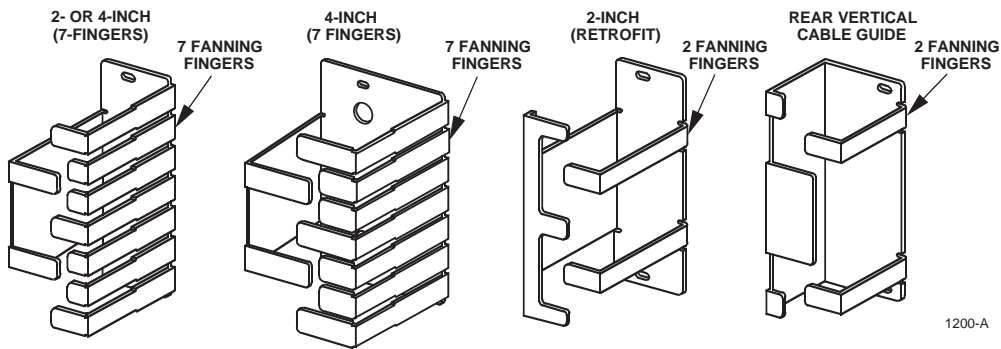

Figure 2. Optional Vertical Cable Guides
3.02 Optional vertical cable guides can be attached at each side of the chassis (see Figure 2), unless the splice module is installed in an ADC equipment frame which includes guides. The cable guides form a vertical pathway and provide protection and organization for patch cords. Four vertical cable guide styles are available. Their use is determined by frame spacing and whether they are used with the 7-Inch FDS or LGX frames. Choose one of the vertical cable guides that match what is installed on the other FDS equipment in the rack: